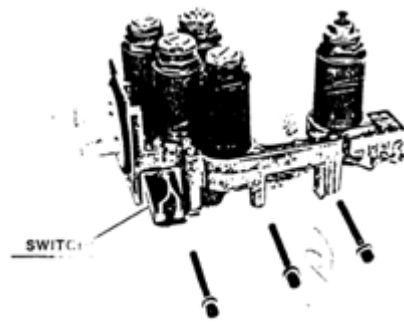

Figure 5-23. Solenoid Pack on Receiver
29. Solenoid Pack Disassembly (Figures 5-23 and 5-24).